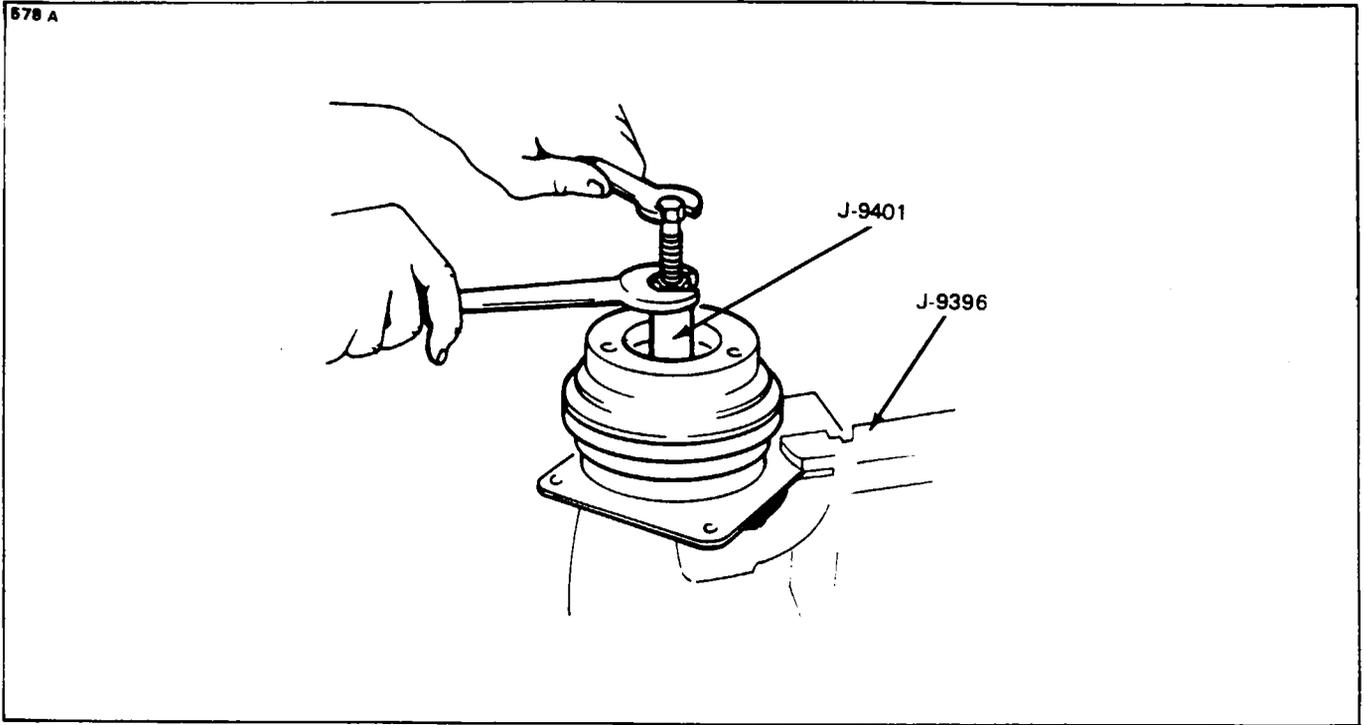

Figure 21-26. Removing Driven Plate
**MAGNETIC CLUTCH, PULLEY AND COIL.** (Refer to Figures 21-26 thru 21-36.)
2. Install puller J-9401 into hub of driven plate. Hold main body of tool and turn forcing screw clockwise to remove driven plate. (Refer to Figure 21-26.)